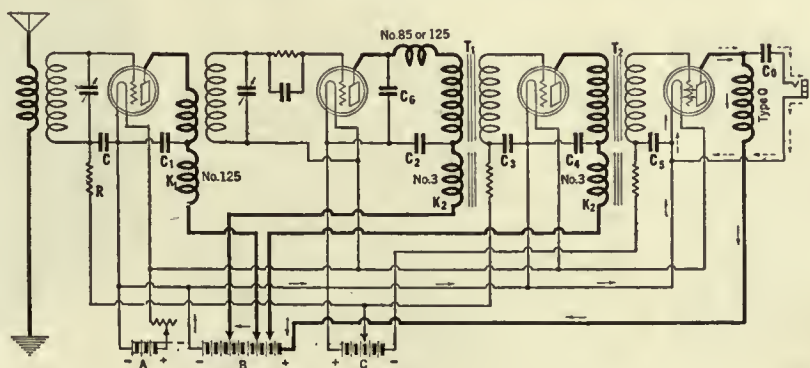

FIG. 1
**TYPE 125**—This choke coil is similar to the type 85 and can be used for the same purposes. Three of these chokes gave an average inductance of 200 millihenrys and an average d.c. resistance of 400 ohms when measured in the Laboratory. Home-constructors unfamiliar with chokes and their uses might consider a resistance of 400 ohms to be too high, but this is not so. Suppose we had a 201-A tube in an r.f. amplifier, operating with 90 volts on the plate and a  $4\frac{1}{2}$ -volt C battery. The plate current would be about 0.002 amperes. Now, if we wanted to keep the r.f. currents out of the B battery we would put a choke coil, K1 in Fig. 1, in the plate circuit of the tube, and then bypass the r.f. currents to the filament with the condenser C1. If the choke coil was a type 125 its impedance at 500 kilocycles would be 627,000 ohms. Its impedance, being proportional to the frequency, would be even higher at higher frequencies.
**TYPE 3**—This choke coil is for use in filtering audio frequency currents out of any circuit. The average inductance of three samples proved to be 3.1 henrys, and the average resistance, 586 ohms. These choke coils are suitable for use in audio frequency circuits whereas the other choke coils are designed for radio-frequency circuits. Two points at which these chokes might be used are indicated in Fig. 1, K2, where they function to prevent, to a considerable extent, coupling in the plate supply which might cause
**TYPE O**—This is an output impedance to be used in eliminating the direct current from the windings of a loud speaker. A fixed condenser with a capacity of two microfarads or more must be used in conjunction with this output device. See Fig. 1. Note how the audio currents indicated by the dotted lines flow directly back to the filament and do not pass through the battery. Price \$5.00.